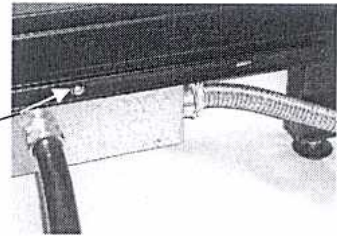

fig 2
3. Attach the NYBF box to the horizontal frame member with one #8-32 x 1/2" thread tapping screw from each side of the panel. (see fig 2).